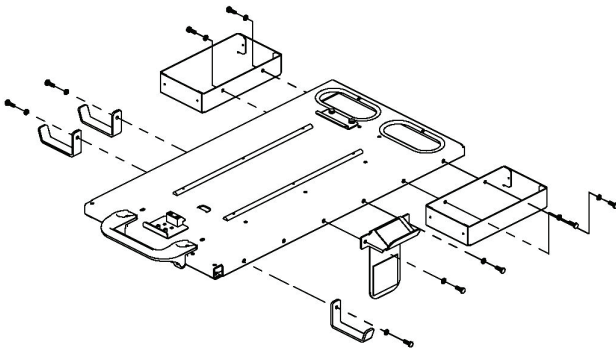

Figure 7 - Accessories Installation
**FIGURE 7 - Accessories Installation** – shows how the accessories mount to the cart top bracket, using the provided screws into the mating mounting holes. Utilization and location of accessories is up to the user.